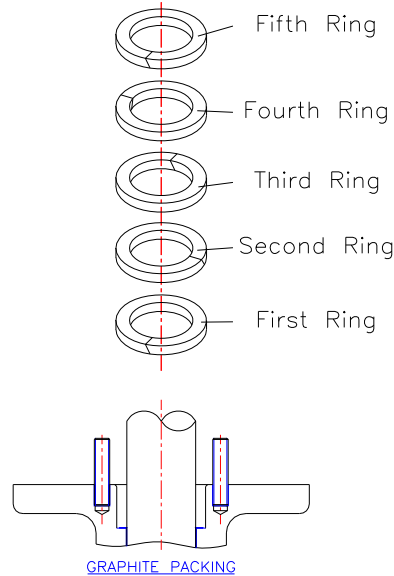

Fig.13
11.3 Inspect the drive shaft, bore of the stuffing box, and the gland follower. These surfaces should be relatively scratch free(Fig.13). If there is any damage, polish the surface to 32 rms finish. If any part has severe damage, contact VALUE VALVES CO., LTD. At +886-2-22698000 ext.66.
(Fig.13)
11.4 Install each new ring of packing, use the gland follower to push each ring of packing evenly into position after starting it in the stuffing box bore. Stagger the splice-joints of each packing ring so they are as far as possible from each other (see example above). Usually, rotating each ring until the splice is at 90° from the previous splice is sufficient. (Fig.13)